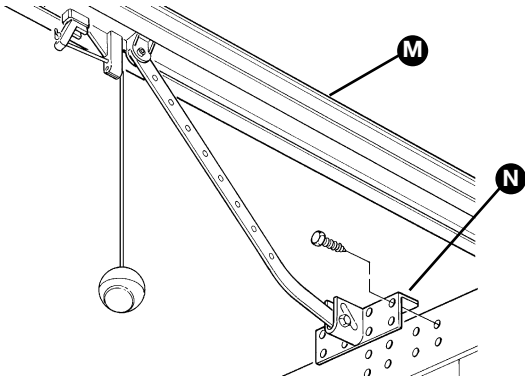

Figure 42
**8** Slide the carriage until the door mounted bracket **[N]** shown in Figure 42 is positioned on the upper edge of the door, exactly perpendicular to the guide **[M]**. Next, secure the door mounted bracket **[N]** with screws or rivets. Use screws or rivets that are suitable for the door material, making sure that they are capable of bearing all the strain resulting from opening and closing the door.